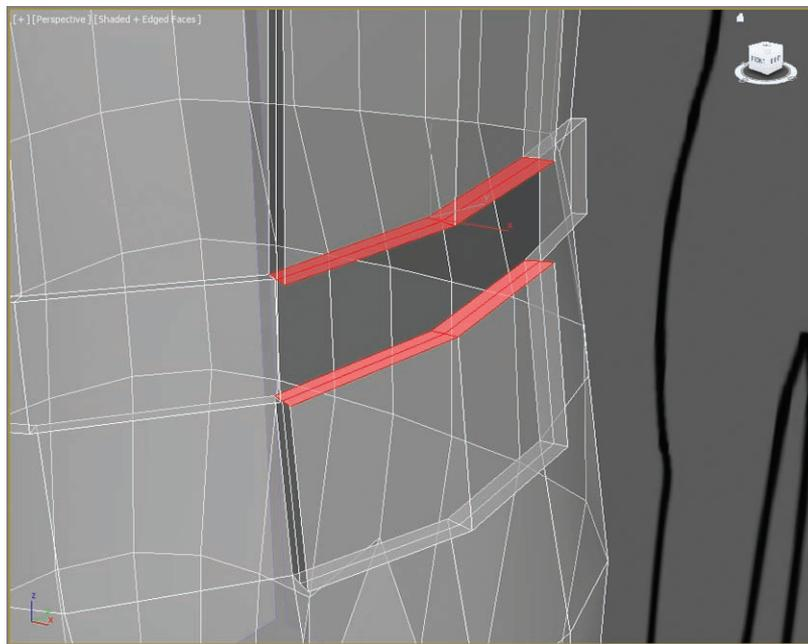

FIGURE 8.7 Delete the selected polygons.
5. Select the four polygons on top of the bottom half of the pouch and the four polygons on the bottom of the top half of the pouch, as shown in Figure 8.7, and delete them.
Figure 8.7 shows the model in See-Through (Alt+X) mode to better reveal the polygons to be deleted.